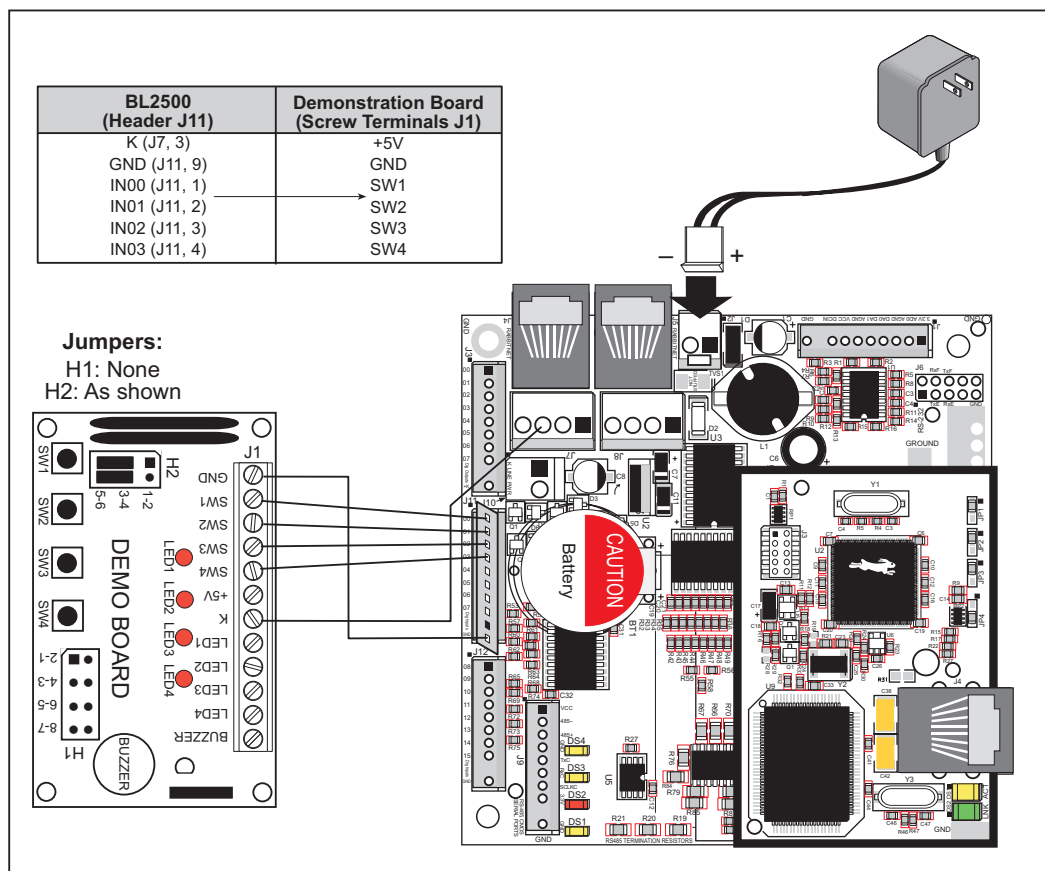
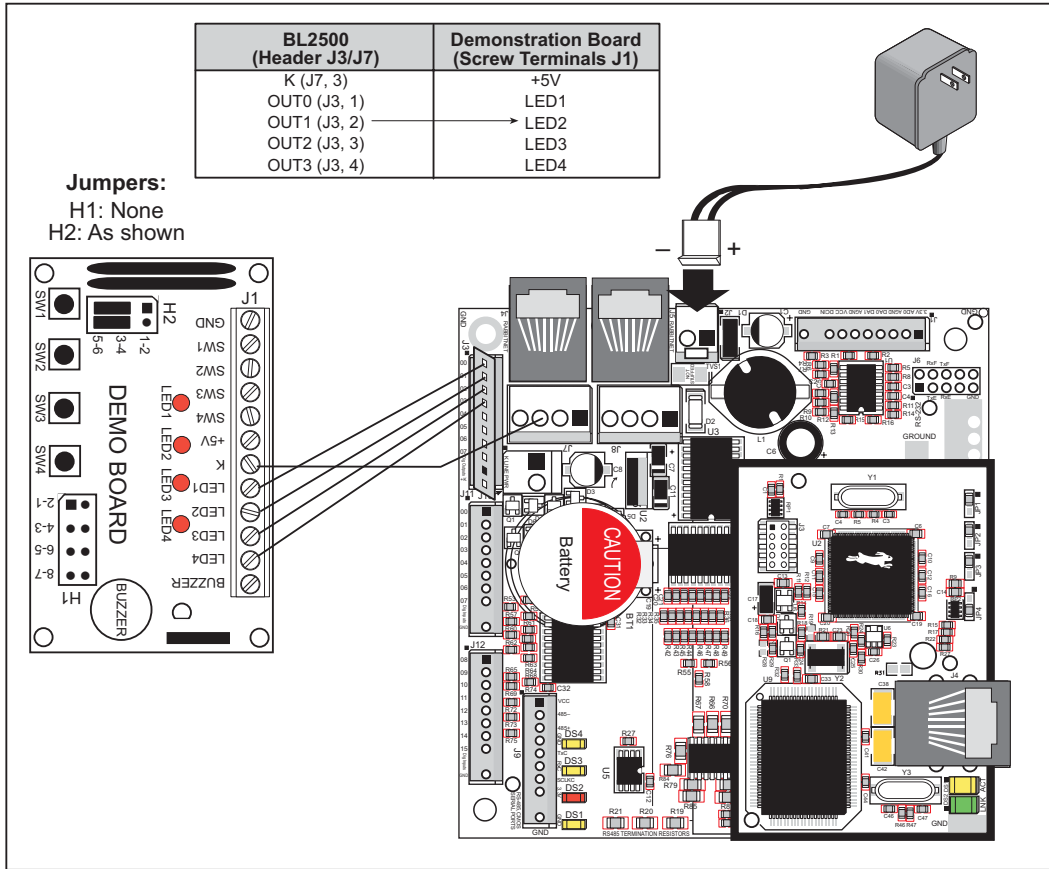
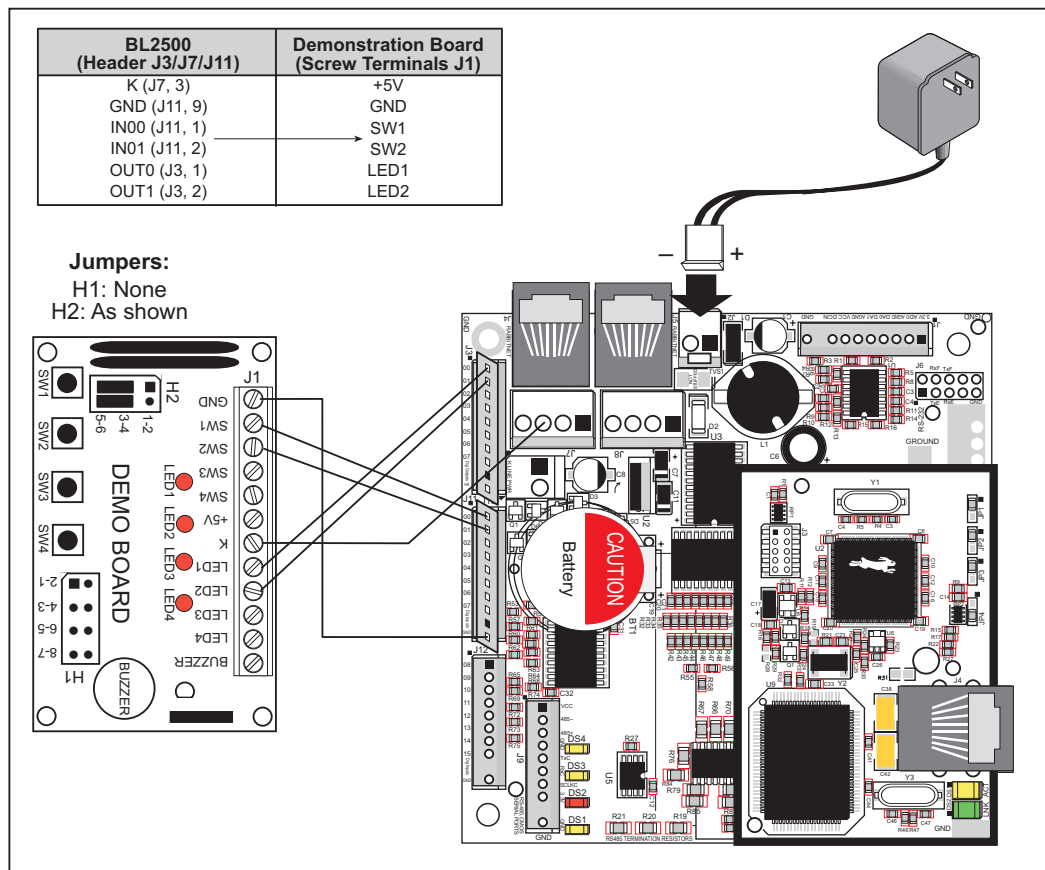

Figure C-3. Connections Between Coyote and Demonstration Board for DIGIN.C Sample Program
Figure C-4. Connections Between Coyote and Demonstration Board for DIGOUT . C Sample Program
Figure C-5. Connections Between Coyote and Demonstration Board for TCP/IP SMPT . C Sample Program
1. Use one of the wiring harnesses you have built to connect header J1 on the Demonstration Board to the Coyote. The connections are shown in Figure C-3 for sample program **DIGIN.C**, in Figure C-4 for sample program **DIGOUT.C**, and in Figure C-5 for the **BL2500\TCPIP** TCP/IP sample programs.